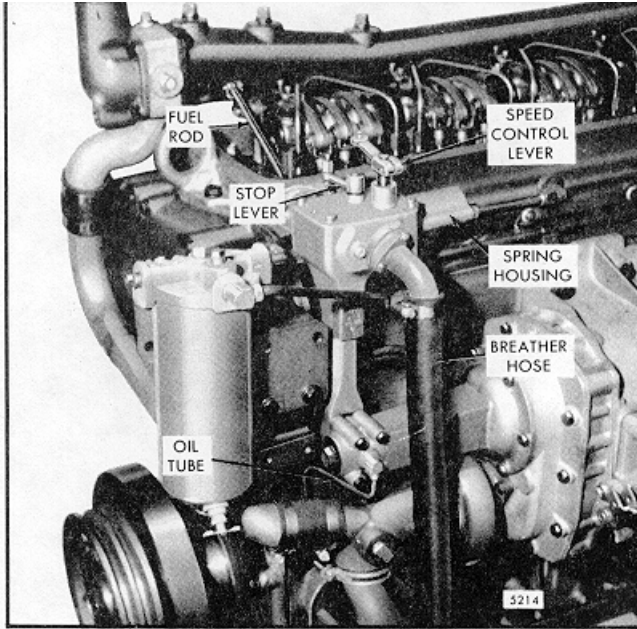

Fig. 2 Typical Limiting Speed Governor Mounting
1. Disconnect the linkage attached to the governor control levers (Fig. 2).